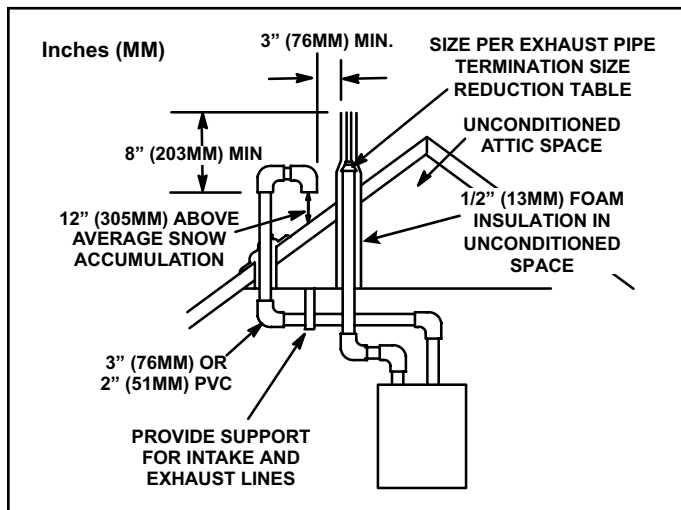
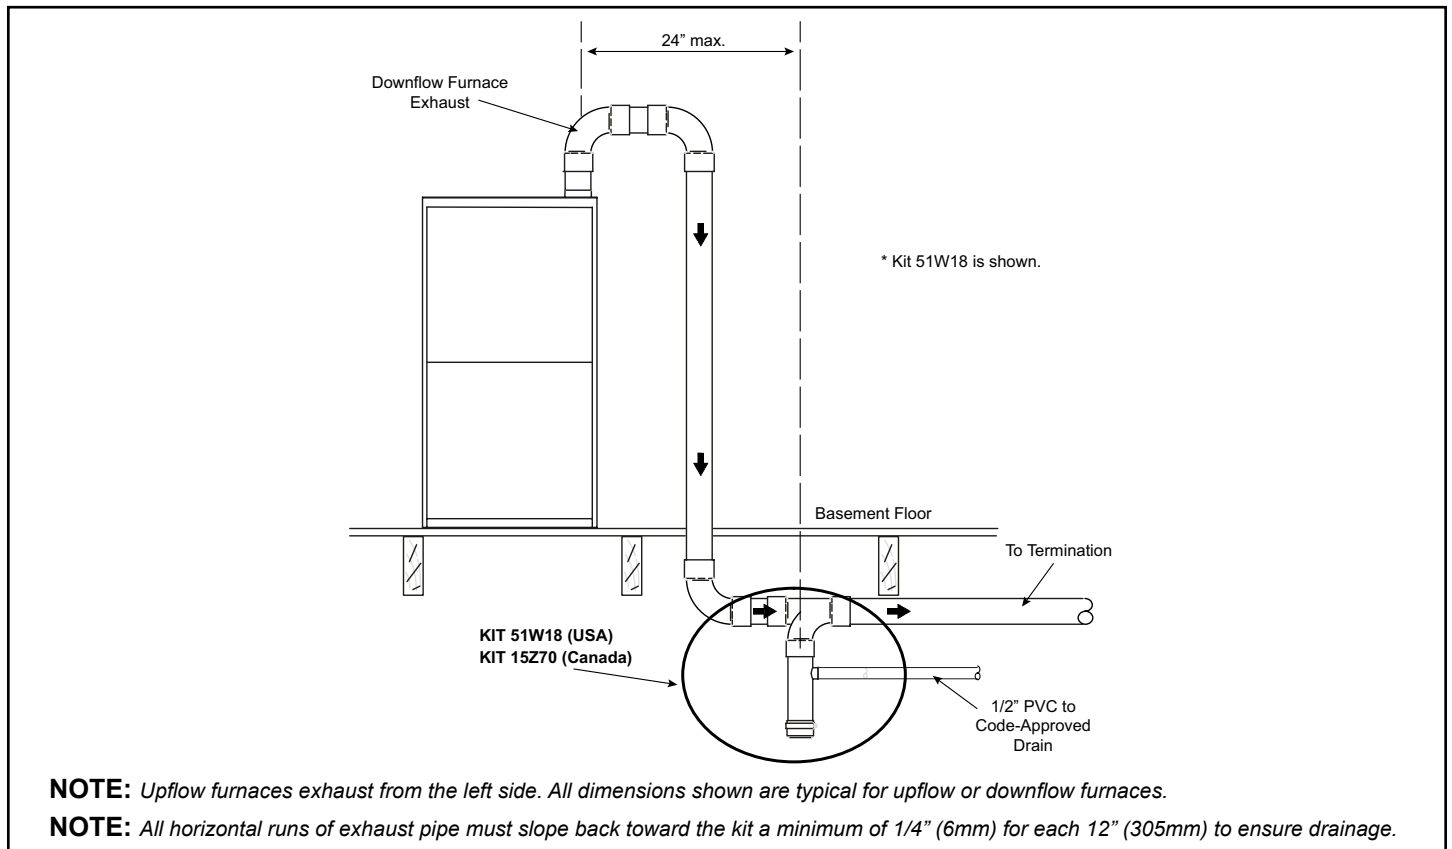

Figure 22. Direct Vent Roof Termination Kit (15F75 or 44J41)
Figure 32. Upflow or Downflow Furnace with Exhaust through Crawl Space
Intake and exhaust pipes may be routed either horizontally through an outside wall or vertically through the roof. In attic or closet installations, vertical termination through the roof is preferred. Figure 22 through Figure 32 show typical terminations.
3. On roof terminations, the intake piping should terminate straight down using two 90° elbows (See Figure 22).